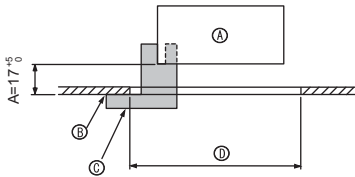

Fig. 5-2
①	Grille	1	950 × 950 (mm)
②	Screw with captive washer	4	M5 × 0.8 × 25
③	Gauge	1	(Divided into four parts)
④	Fastener	3
⑤	Screw	4	4 × 8
⑥	Screw	1	4 × 12
⑦	i-see sensor corner panel	1	for PLP-6BAE
5.2. Preparing to attach the grille (Fig. 5-2)
- With the gauge ③ supplied with this kit, adjust and check the positioning of the unit relative to the ceiling. If the unit is not properly positioned relative to the ceiling, it may allow air leaks or cause condensation to collect.
- ① Main unit
- ② Ceiling
- ③ Gauge (inserted into the unit)
- ④ Ceiling opening dimensions